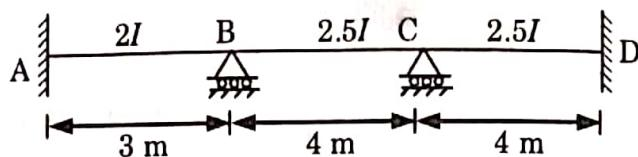

Fig. 12.
- b. Analyse the continuous beam as shown in Fig. 12 by stiffness matrix method if the support *B* sink by 10 mm. Take  $EI = 6000 \text{ kN-m}^2$ .